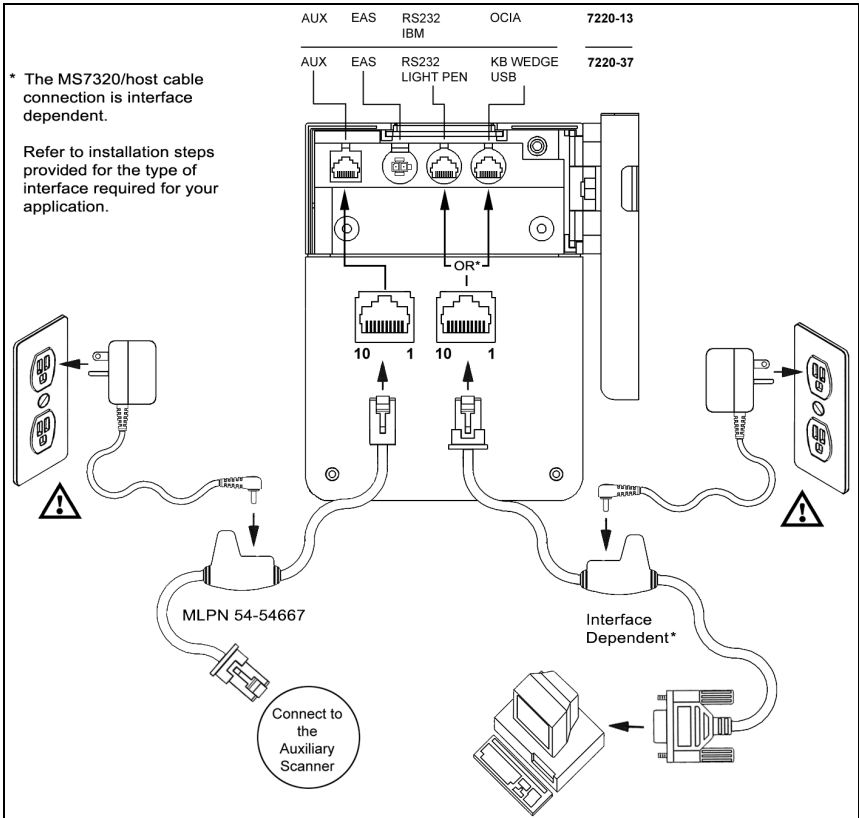

Figure 6: Auxiliary Scanner Setup
2. Connect the round end of the *PowerLink RS232 AUX* cable [MLPN 54-54667A] to the RS232 jack of the auxiliary scanner (see figure 6).